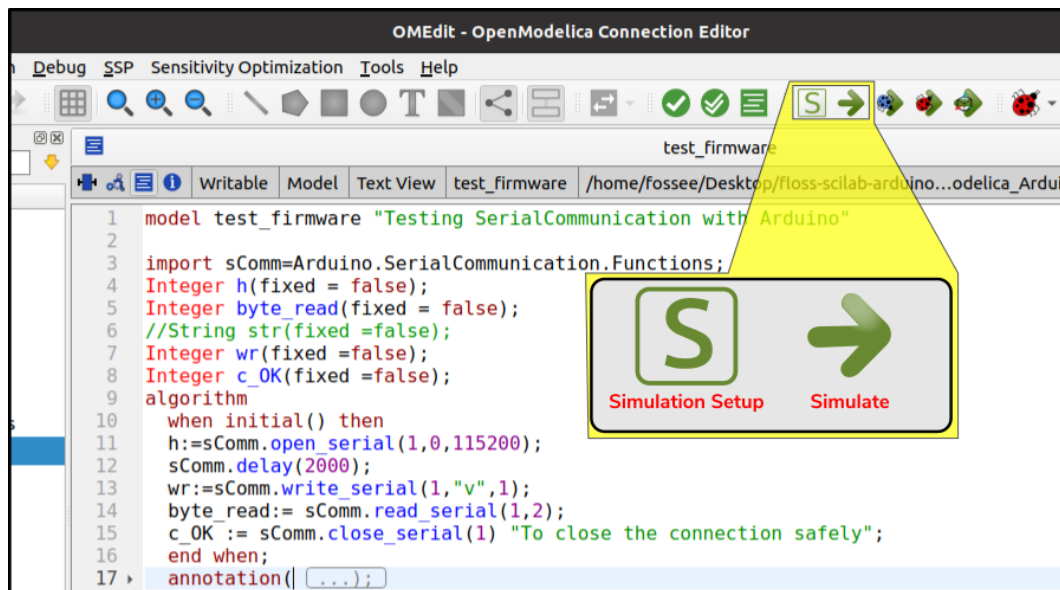
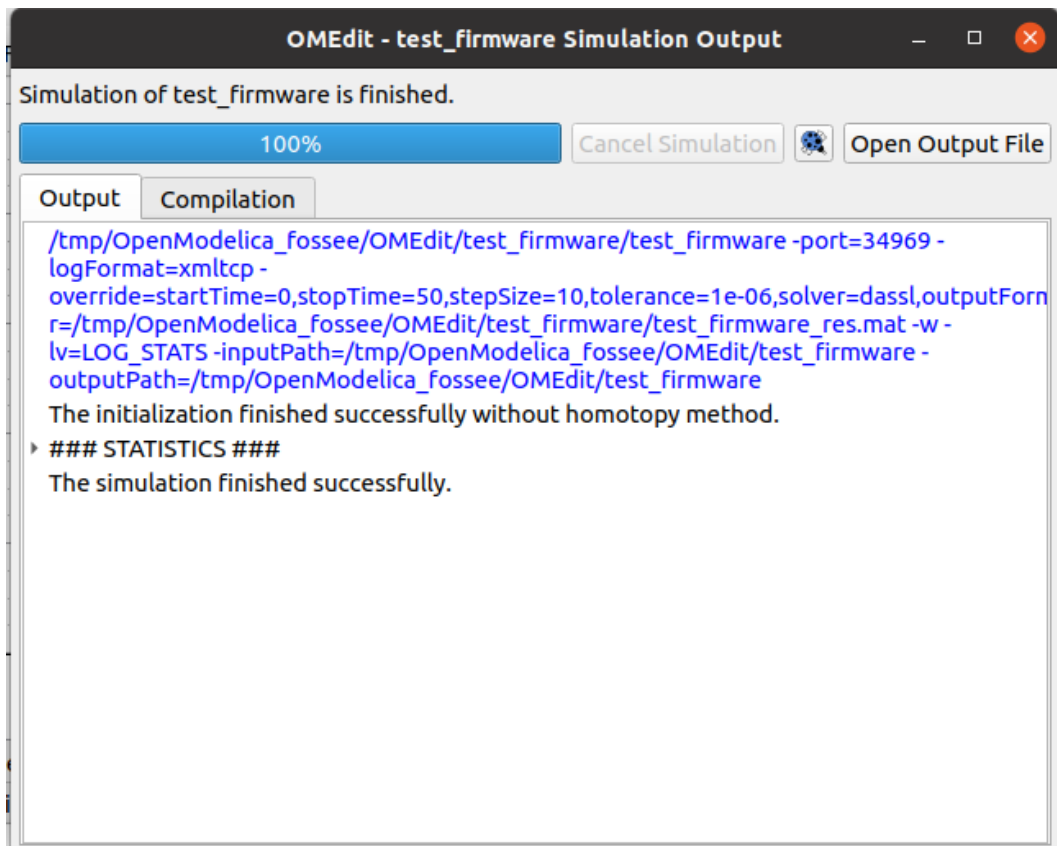

Figure 3.42: Simulating a model in OMEdit
Figure 3.43: Output window of OMEdit
Now, we will see how to simulate this model. For this, we need to ensure that OMEdit is in Modeling Perspective. Next, we will click on the green right-sided arrow, named as Simulate, as shown in Fig. 3.42. When we click on Simulate, OMEdit will first compile the model and then, it will simulate the model for the time specified in the model itself. As OMEdit provides an elegant user interface for simulating the models, it will open an output window the moment you click on Simulate. Fig. 3.43 shows the output window after the simulation of our model is finished. Also, we can observe that the OMEdit is now in Plotting Perspective.
As shown in Fig. 3.43, OMEdit displays the message that "The Simulation finished successfully". Had there been any error in simulating the model, we would not have received this message.
**OpenModelica Code 3.1** An OpenModelica code/model to check whether the firmware is properly installed or not. Available at **Origin/tools/openmodelica/windows/test\_firmware.mo**, see Footnote 2 on page 2. Locate this file inside OpenModelica-Arduino toolbox, as explained in Sec. 3.6.4. Simulate this code/model by following the steps given in Sec. 3.6.3. If the simulation is successful, you should expect an output window in OMEdit as shown in Fig. 3.43.